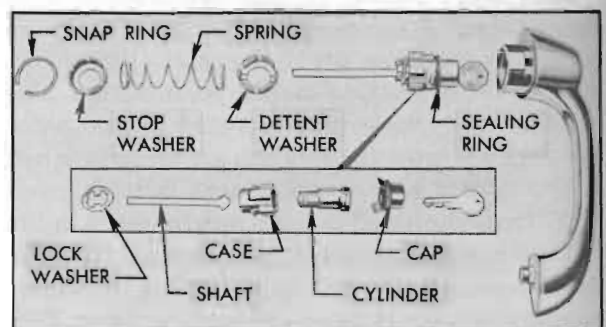

Figure 13-6—Handle and Outside Safety Lock Disassembled
3. Remove retaining snap ring, then remove stop washer, spring, and detent washers from handle; note the relative position of the stop and detent washers to insure correct reinstallation. See figure 13-6.
with snips and discard it. Remove the shaft, bend up ears of push button cap to remove it, then remove lock cylinder from case. See figure 13-6.